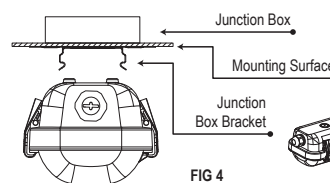

FIG 4
4. Push the Housing into the Junction Box Bracket to secure the fixture to the Mounting Surface, as shown in Fig. 4.